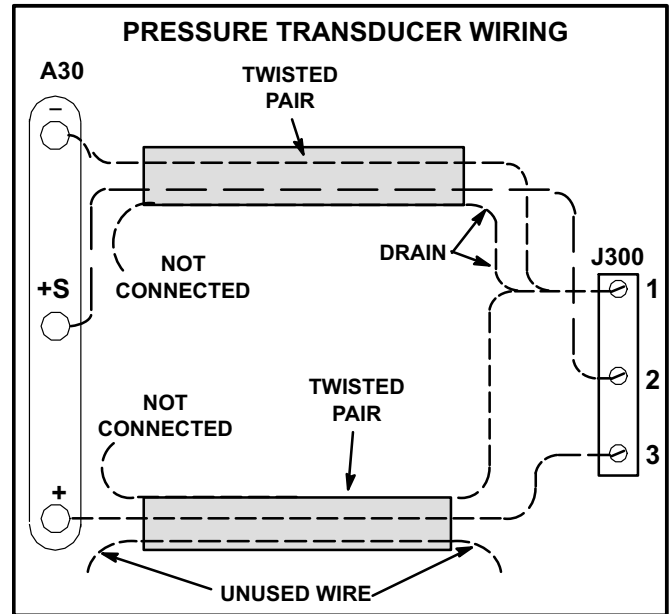

FIGURE 29
- 2- Two twisted pairs of shielded cable must be used to connect the pressure transducer. See figure 29. J/P300 connector is hanging in the control box.